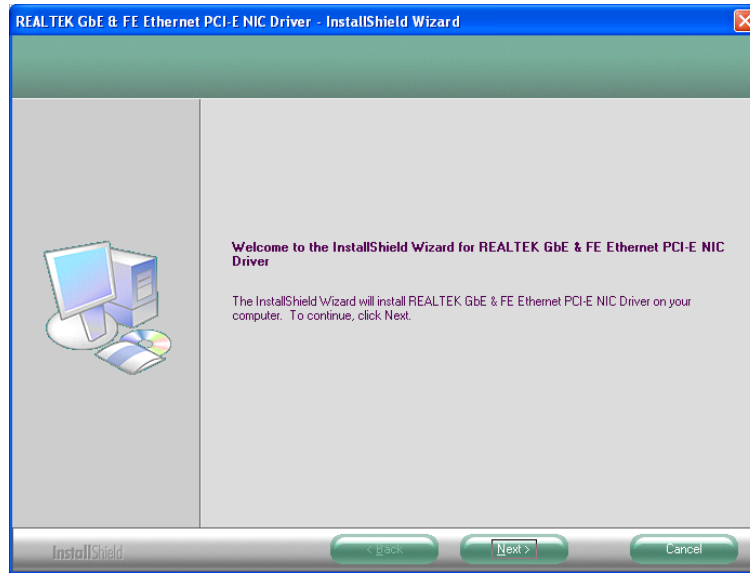

Figure 7-21: LAN Driver Welcome Screen
Step 3: The **Welcome** screen in **Figure 7-21** appears.